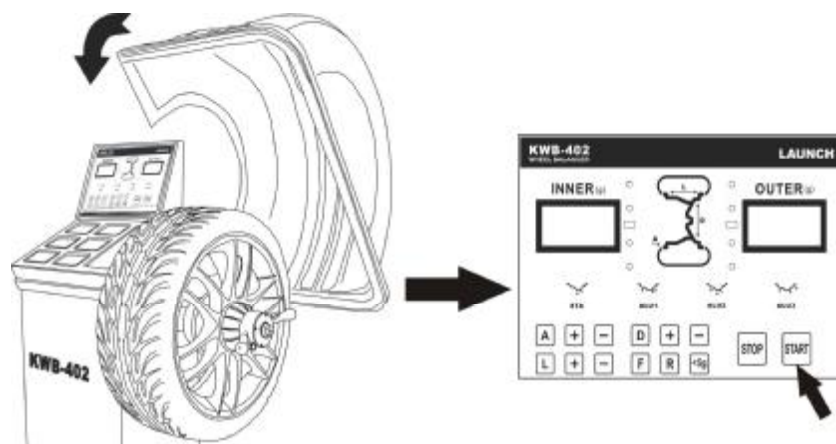

Fig 15
1. Put down the wheel protection and press [START] key to carry out a wheel spin (fig.15). Seven seconds later, the machine stops automatically.